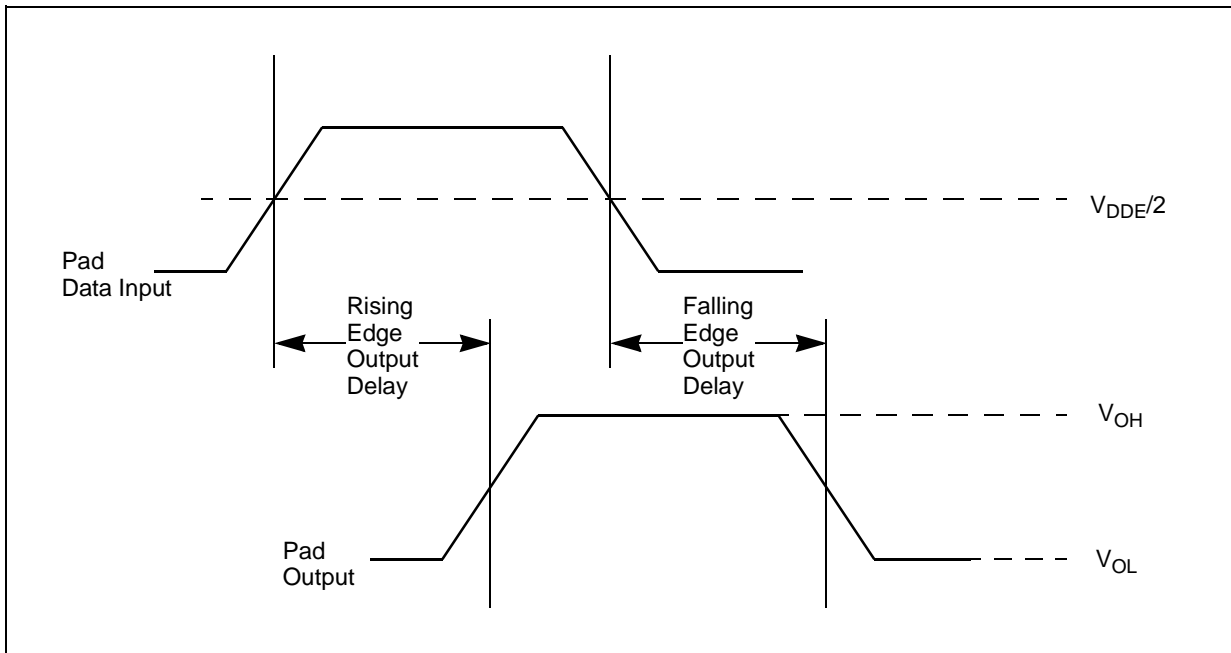
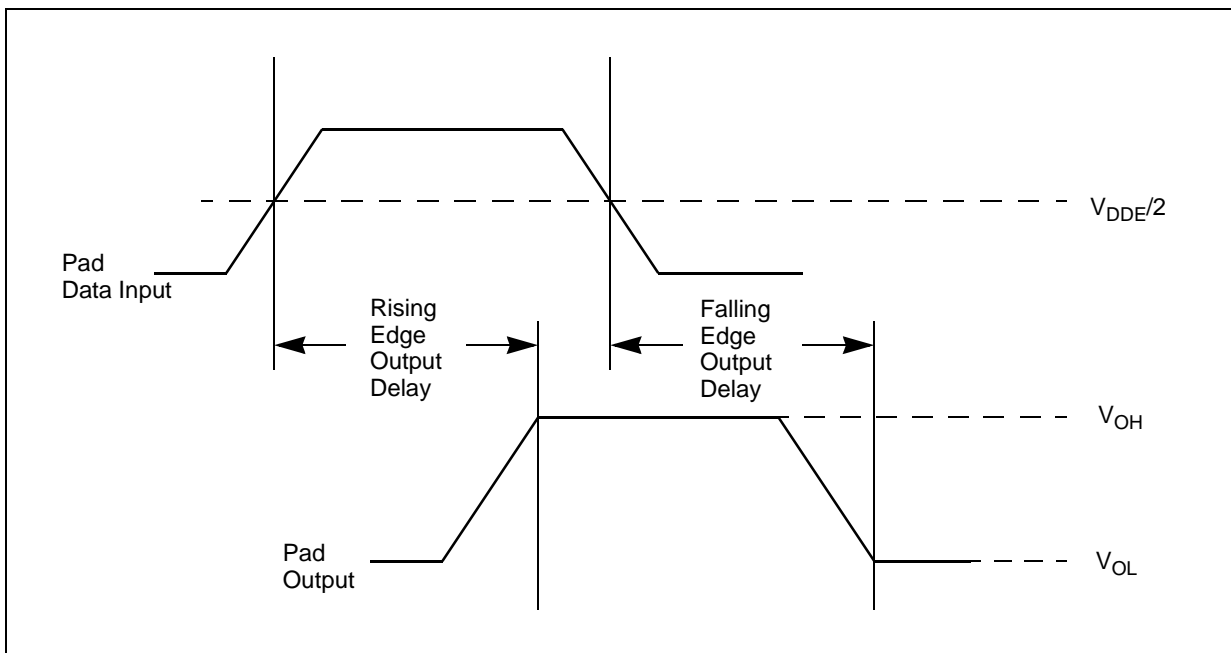

Figure 9. Pad output delay—Fast pads
Figure 10. Pad output delay—Slew rate controlled fast, medium, and slow pads
7. Output delay is shown in Figure 9 and Figure 10. Add a maximum of one system clock to the output delay for delay with respect to system clock.